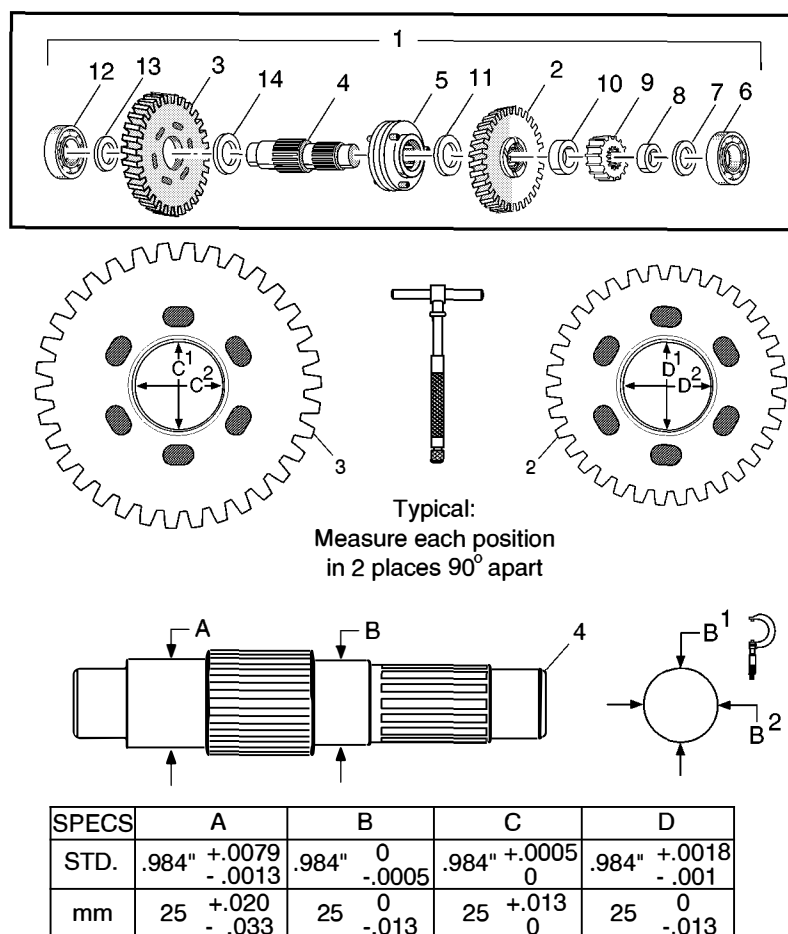

Fig. B-8 Intermediate Gear and Shaft Inspection
### 1. Inspect the intermediate gear and shaft assembly (1) (Ref Fig. B-8 on page B-5).
- Check for a close fit between the gears (2, 3) and the shaft (4). Gears should spin evenly on the shaft without "play" or wobbling.
- Check pin clutch motion. Pin clutch (5) should slide freely on the shaft.
### 2. If necessary, disassemble the intermediate gear and shaft assembly (Ref Fig. B-8 on page B-5).